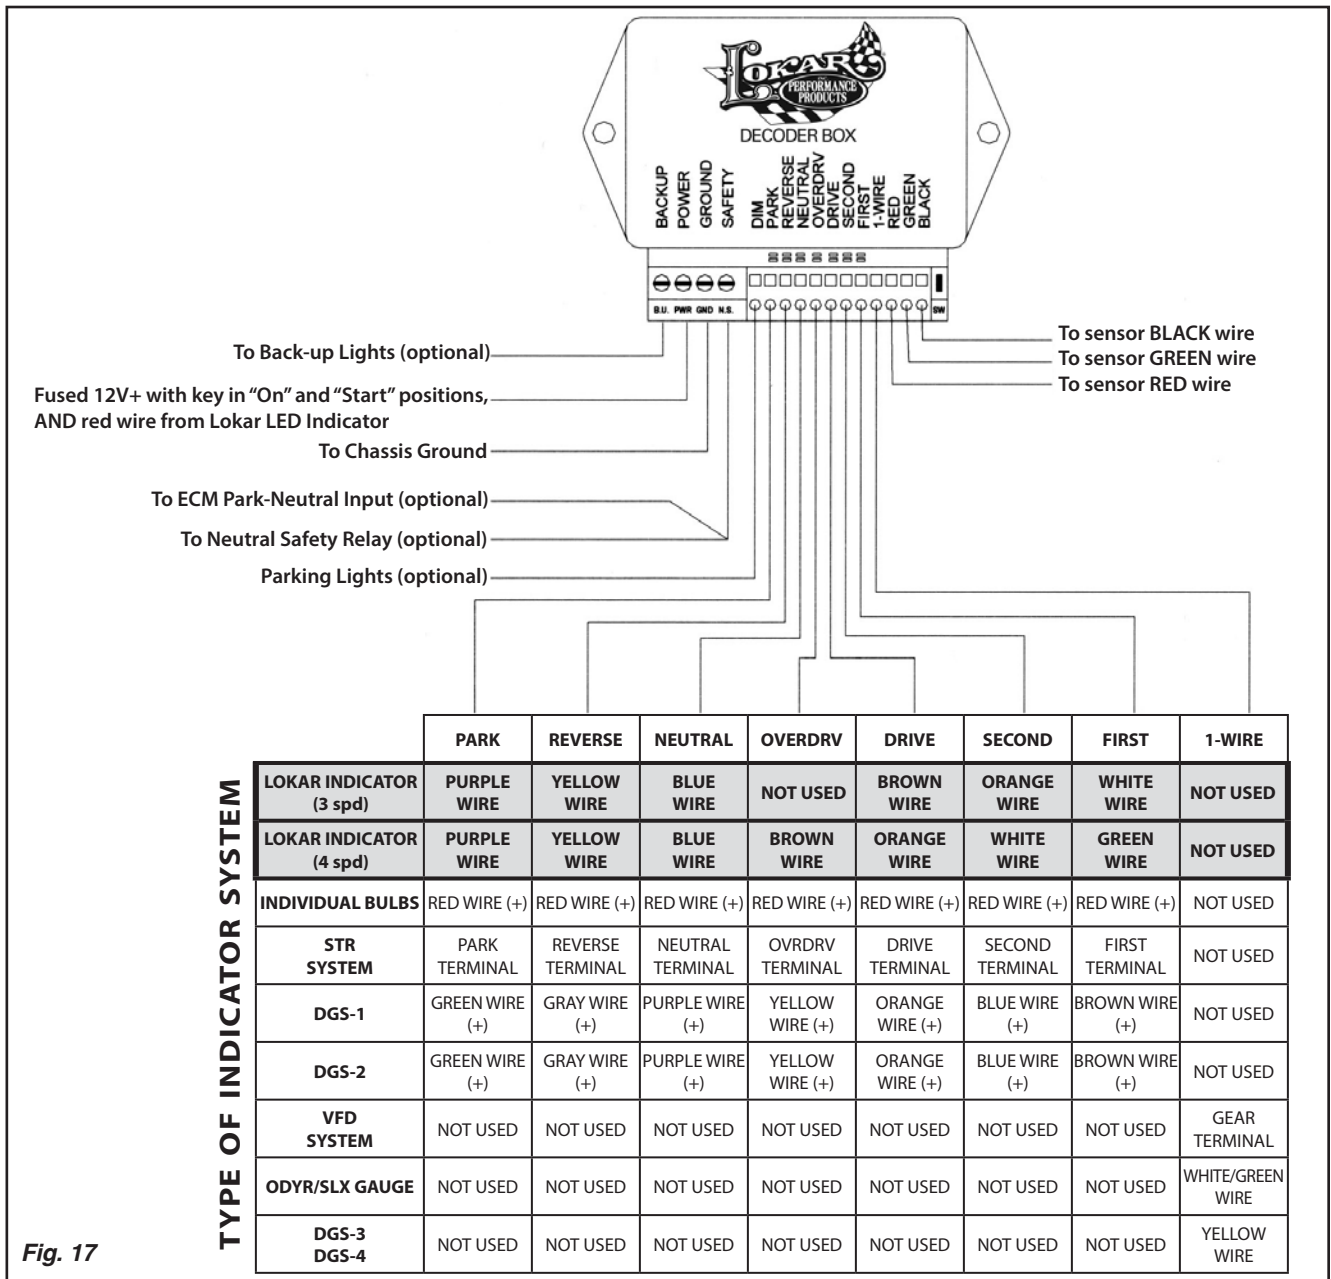

Fig. 17
Connect a solid chassis ground to the "GROUND" terminal on the decoder box. **Fig. 17**
- Step 13:** Following the wiring diagram in **Fig. 17**, connect the rest of the wires from the LED indicator to the decoder box.
- Step 14:** Following the wiring diagram in **Fig. 17**, connect the rest of the wires from the LED indicator to the decoder box.